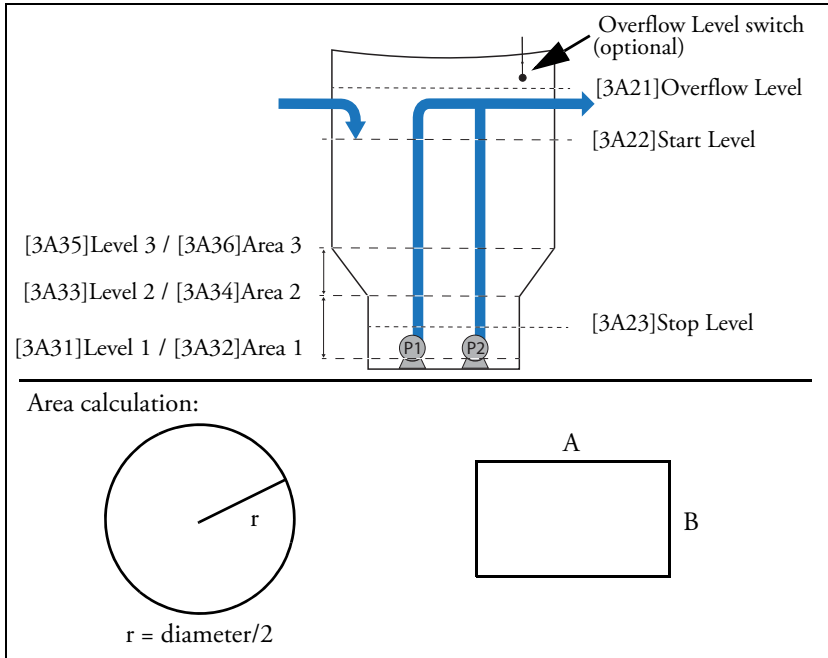

Fig. 28 Sump areas and levels, examples.
See also Fig. 28, page 53.
Set the desired levels for actions to be taken (starting and stopping of the pumps), see Fig. 28, page 53.
**Note: Overflow level has to be higher than Start level which has to be higher than Stop level. Full speed level should be between overflow and start level. In general, the overflow level shall be set somewhat below the Overflow switch (If installed) see Fig. 28.**